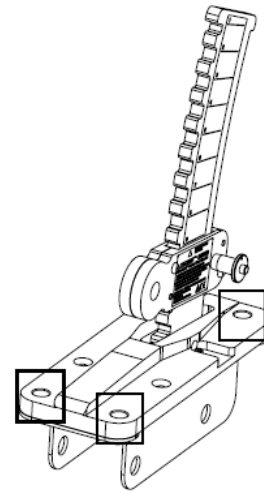

Fig. 4. Remove screws from bracket
1. Remove the 4 screws that attach the frame bracket to the base of the ground stack bracket. See Fig. 4.